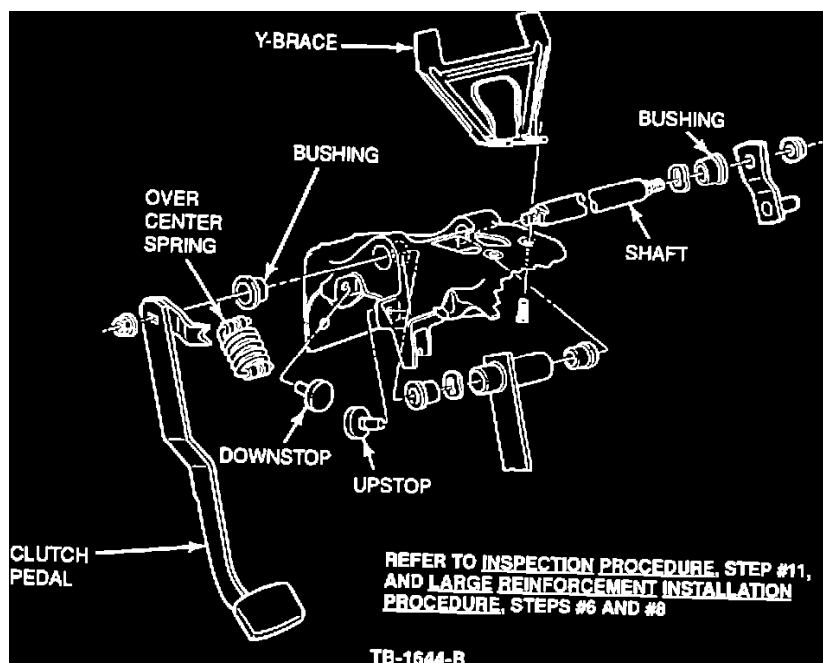

Figure 4
8. Thoroughly inspect the brake and clutch support again for cracks in the casting and worn bushings. Also, inspect the "Y" brace for cracks and missing fasteners. Replace as necessary, Figure 4.